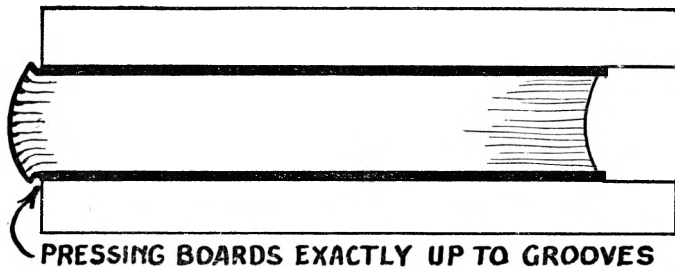

Fig. 72
63. Nip the book in the press with pressing boards set exactly up to the grooves, fig. 72. Remove from the press and leave under a light weight to dry out. Any lettering required on the case is most conveniently done at this stage once it is dry.
67. Open each board just sufficiently to slip in a sheet of clean waste paper under each endpaper and nip in the press between pressing boards set up to the grooves as in fig. 72. Remove from the press and examine the endpapers